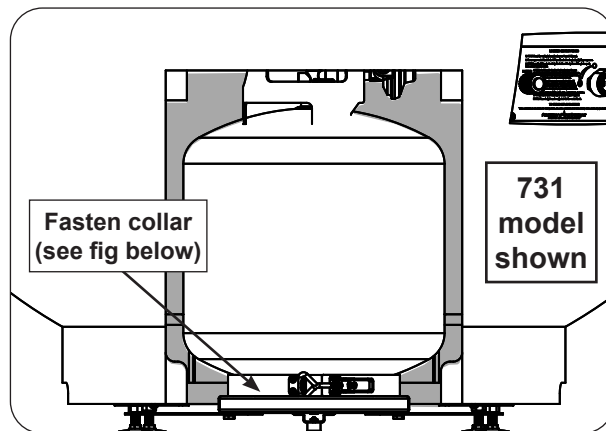
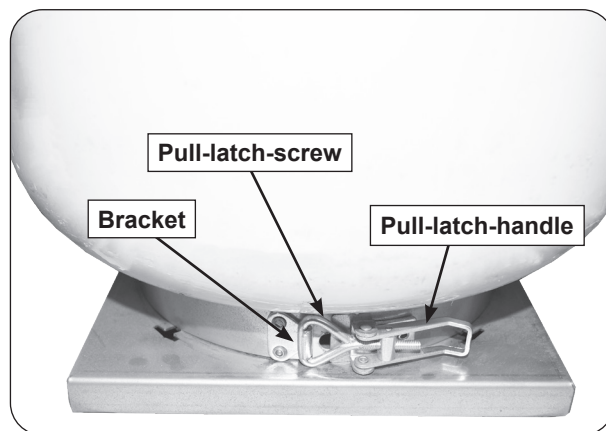

Fig. 31-2 L.P. cylinder placement
Fig. 31-3 Secure L.P. cylinder
3. The propane cylinder (not included) is to be located inside the base of the unit, via the storage door opening. Insert the cylinder into the tank holder tray and secure it. See Fig. 31-2, Fig. 31-3, and the details below: